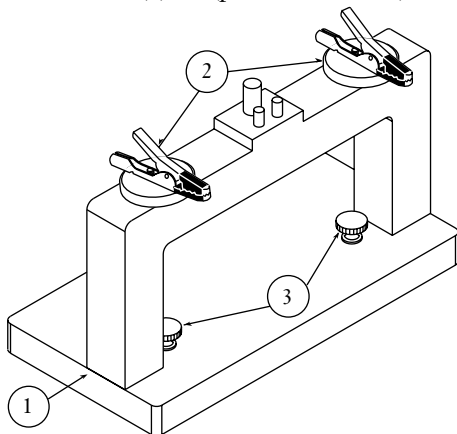

Figure 3
4.2 The optional Assembly Platform (p/n 3202020-01) has the following components (Figure 3):